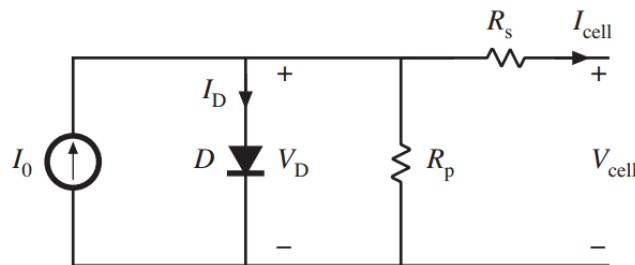

Figure 3: Equivalent circuit model of a photovoltaic cell.
12. The standard electrical equivalent circuit model for a photovoltaic cell is illustrated in Fig. 3. The current source I_0 models the photo-generated current, and is approximately proportional to the solar irradiation (insolation). The diode exhibits an exponential i - v characteristic, according to the conventional diode equation:
Find values of I_0 , I_{D0} , R_p , and R_s , such that the model of Fig. 3 predicts the curve you measured in step 5. You may assume that all cells are identical, so that the total panel voltage V_{PV} is equal to 36 times the voltage of one cell V_{cell} . Plot the i - v characteristic predicted by your model, and overlay your experimental data points. Compare the model-predicted open-circuit voltage, short-circuit current, and maximum power point voltage and current, with your measured data. You may use LTspice or MATLAB (both provided on the lab computers) to assist with this part.